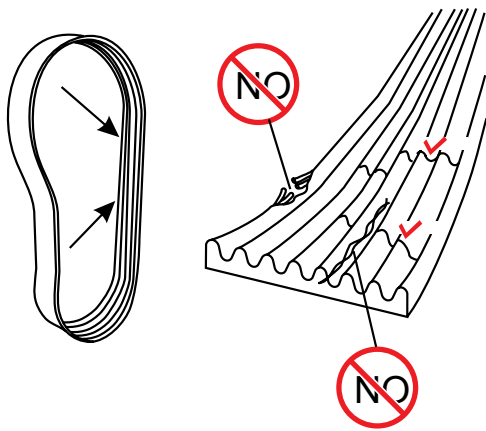

Figure 46. Wear and Tear Check
2. Regularly check the poly V-belt for wear. If wear is detected (Figure 46), the belt must be immediately replaced.